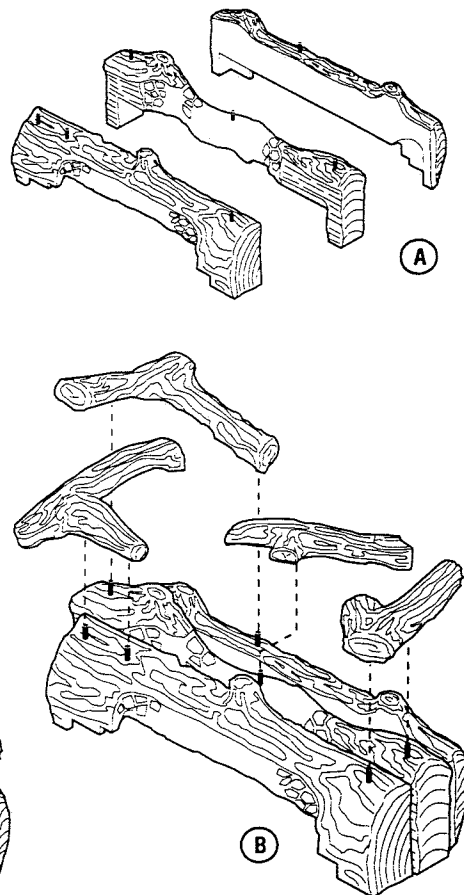

Figure 50
Carefully position and center the bottom fiber logs onto the burner. Ensure that these logs are seated around the burner bracket mounting tabs. The logs are properly placed when all of the (O's) on the top of the bottom logs are located at the vent end of the appliance (Figure 50 A and Detail).
Place the four (4) smaller fiber logs (twigs) across the three (3) lower logs in the manner illustrated in Figure 50 B and C. Position the left twig first, on two pins. Position the center twigs over two (2) pins in the bottom logs.
Then position the right twig on the remaining pins in the bottom logs (Figure 50).
No smoke or soot should be present. Reposition the logs as shown in Figure 50 if the flames impinge on any of them.